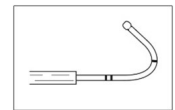

Figure 6: Maxillary Bend
- Maxillary Sinuses:** When accessing the maxillary ostia/ethmoid infundibula, a bend of approximately 120 - 135° (Figure 6) is recommended to gain access to the natural maxillary ostium.